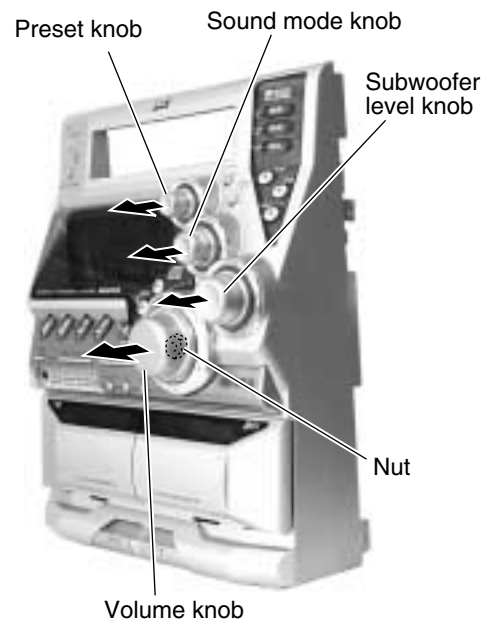

Fig.30
■ **Removing the operation switch board (See Fig.30 and 31)**